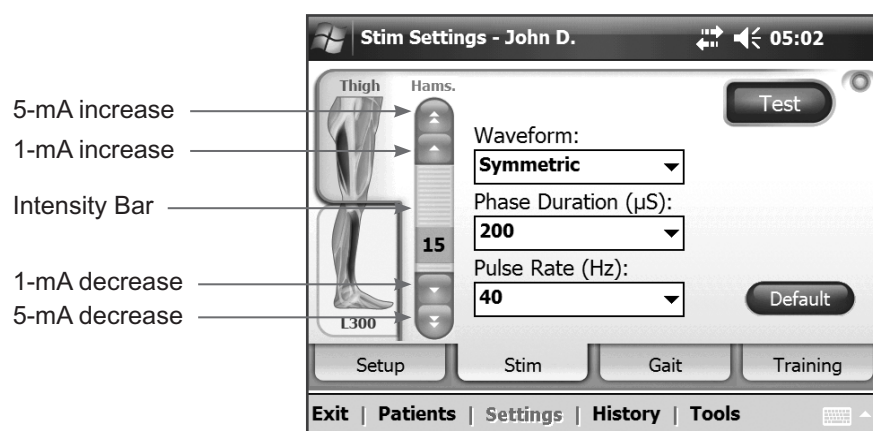

Figure 7-24: Stim Settings window, Thigh *Hamstrings*.
1. Press the **Stim tab** and the **Thigh tab** to open the Thigh Stim Settings window. See Figure 7-24.